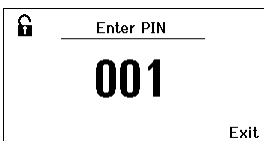
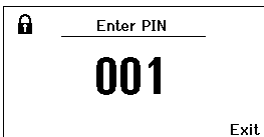

Fig. 26
Fig. 27
3. Set the required three-character locking code (between 001-999) with the turn-and-click wheel (5) (see Fig. 26).
4. Confirm the value with the Enter key (6).
The lock is active (the display shows a lock symbol (27), see also Fig. 27).